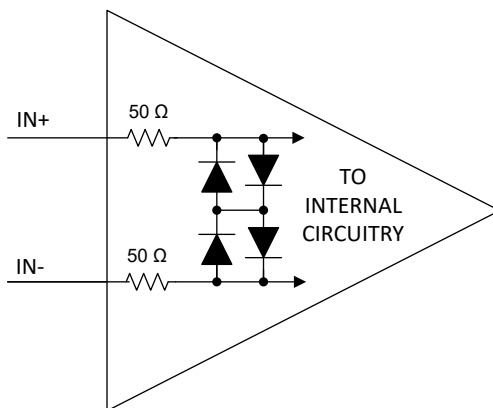

Figure 7-1. Input Stage Circuitry
The TLV380x/TLV3811(C) feature an input stage, capable of operating between 1.5 V above VEE (GND for TLV3811(C)) and 0.1 V above VCC, with an internal ESD protection circuit that includes two pairs of front-to-back diodes between IN+ and IN- as well as two 50 Ω resistors, as shown in Figure 7-1. This prevents damage to the input stage by limiting the differential input voltage to be no more than twice the diode's forward-voltage drop $2 \times V_F$ (2×0.7 V).